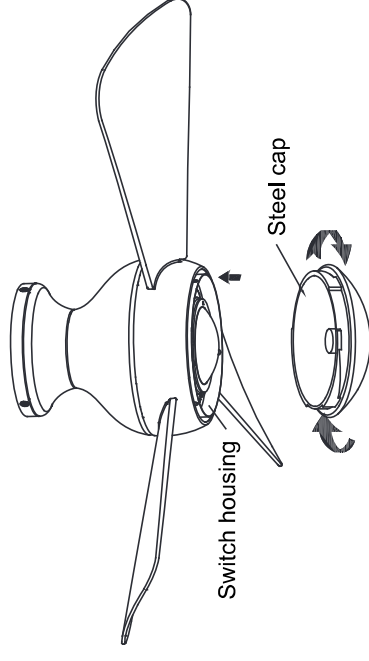

Fig. 15b
Step 6. Assemble the steel cap to the switch housing by twisting in a clockwise direction (**Fig. 15b**).